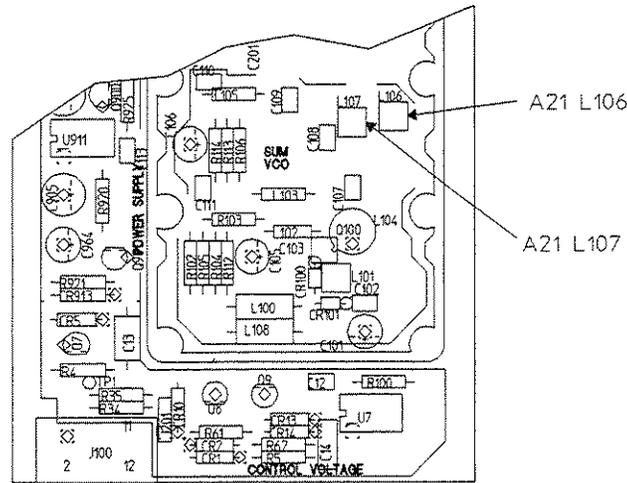

Figure 1-5. A21 Sum VCO Component Locator
6. Through the holes in the shield can, alternately adjust A21 L106 and L107 (see figure 1-5) for a flatness (maximum amplitude minus minimum amplitude) of less than 3 dB(p-p). During this adjustment, periodically clear the spectrum analyzer's maximum hold function.